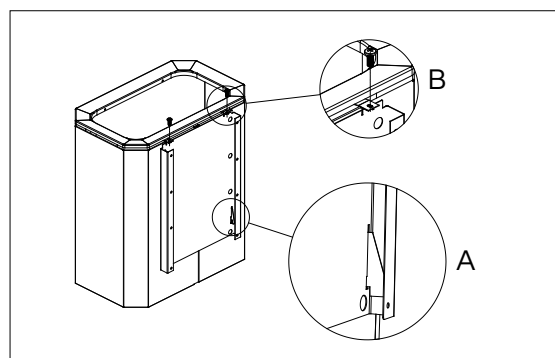

Figure 6.9-2 Heater onto the wall mounting plate
- Thread the carrying handles at the rear of the heater into the slots in the wall mounting plate (Figure 6.9-2).
- Secure the attachment of the top end of the heater using 2 pcs. of locking screws (Figure 6.9-2).